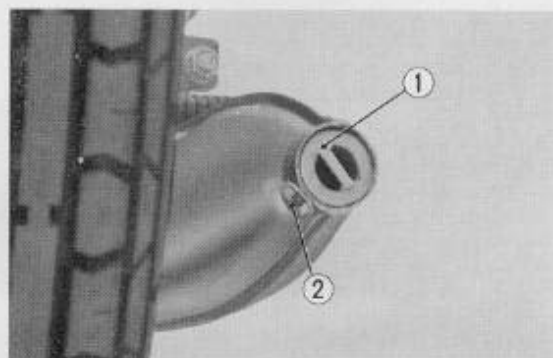

Fig. 4.65 Removing diffuser pipe
3. The diffuser pipe can be removed by unscrewing the 6 × 8 hex bolt, however, the diffuser pipe is not removable on the USA export models. (Fig. 4.65)